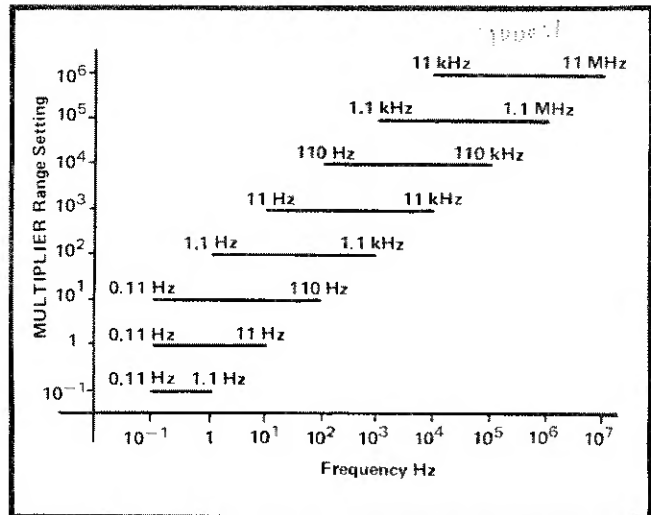

Fig. 1-4. Graph showing range of frequencies for each MULTIPLIER setting that can be swept with a 0 to 10 V signal applied to the VCF input.
PLIER setting, by applying a 0 V to 10 V signal to the VCF IN connector. It may be necessary to vary the CAL control to obtain the full 1000:1 swept range or the lowest swept frequency desired. See Fig. 1-4 for maximum VCF range for each MULTIPLIER setting.
2. Set the MULTIPLIER selector and FREQUENCY Hz dial for the desired upper or lower frequency limit (depending on the direction you wish to sweep). See Fig. 1-4 for VCF ranges and MULTIPLIER settings.